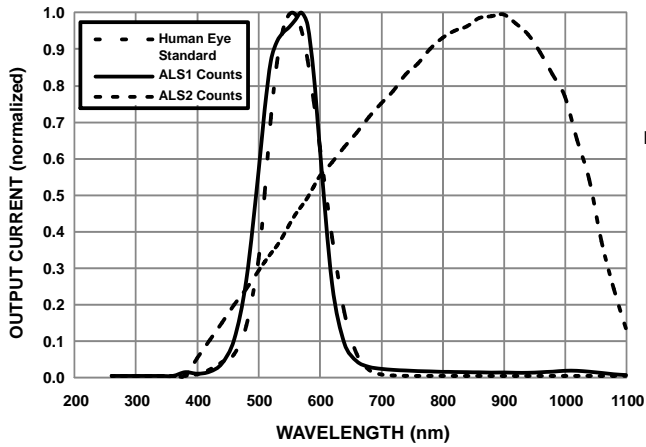

Figure 4. ALS Spectral Response (Normalized)
7. Refer to Figure 4 for more information on spectral response.
The NOA3315W contains two ambient light sensors. The first ambient light sensor employs a photo diode with its own proprietary photopic filter limiting extraneous photons, and thus performing as a band pass filter on the incident wave front. The filter only transmits photons in the visible spectrum which are primarily detected by the human eye. The photo response of this sensor is as shown in Figure 4. The second ambient light sensor employs a similar photo diode but without a light filter. Either or both ALS can be enabled. When disabled, an ALS is put in power down mode.